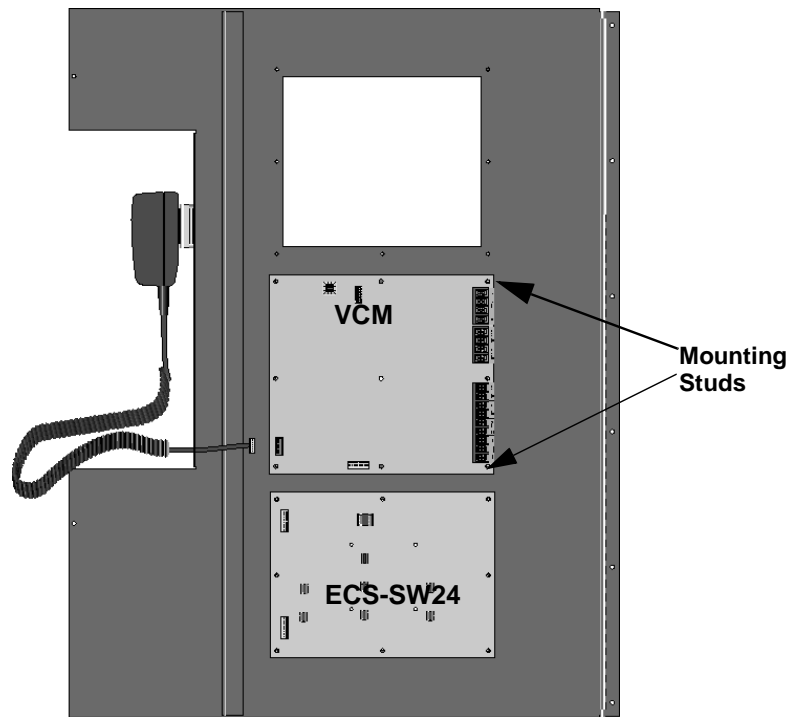
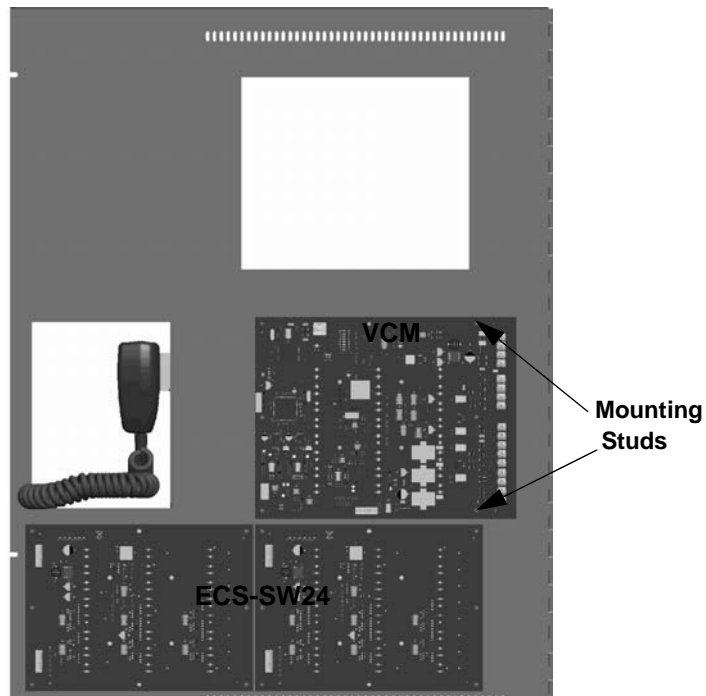

Figure 4-6 Back View of IFP-100ECS or IFP-1000ECS Dead Front Panel
Figure 4-7 Back View of IFP-2000ECS Dead Front Panel
4. Install the ECS-SW24 on the six mounting studs located on the inside of the dead front panel. See Figure 4-6 for IFP-100ECS and IFP-1000ECS or Figure 4-7 for IFP-2000ECS.